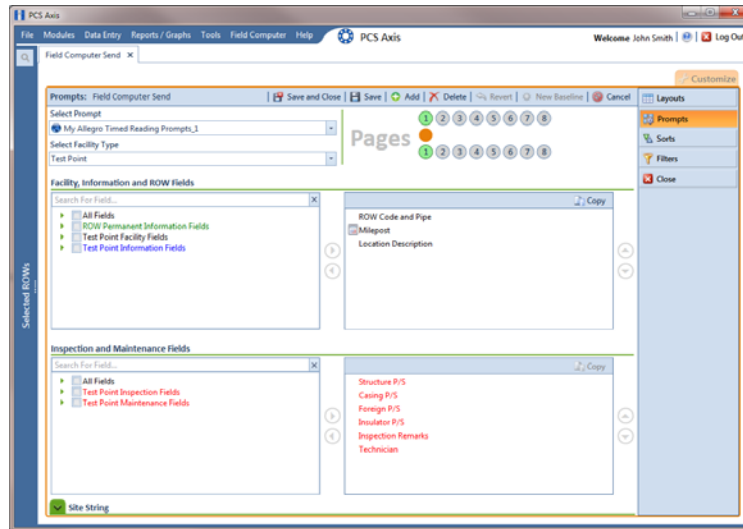

Figure 7-21. Prompts
- 9 Verify the name of the new theme displays in the **Select Prompt** field. If not, click the down arrow and select the theme in the selection list (Figure 7-21).
- b Double-click one or more fields in the selection list to move fields to the right pane. All fields listed in the right pane are included in the prompt theme (Figure 7-21).
- a Double-click **All Fields** in *Inspection and Maintenance Field* (Figure 7-21).
- a Click the  **Site String** tab to view a list of fields available for selection (Figure 7-21, page 303).